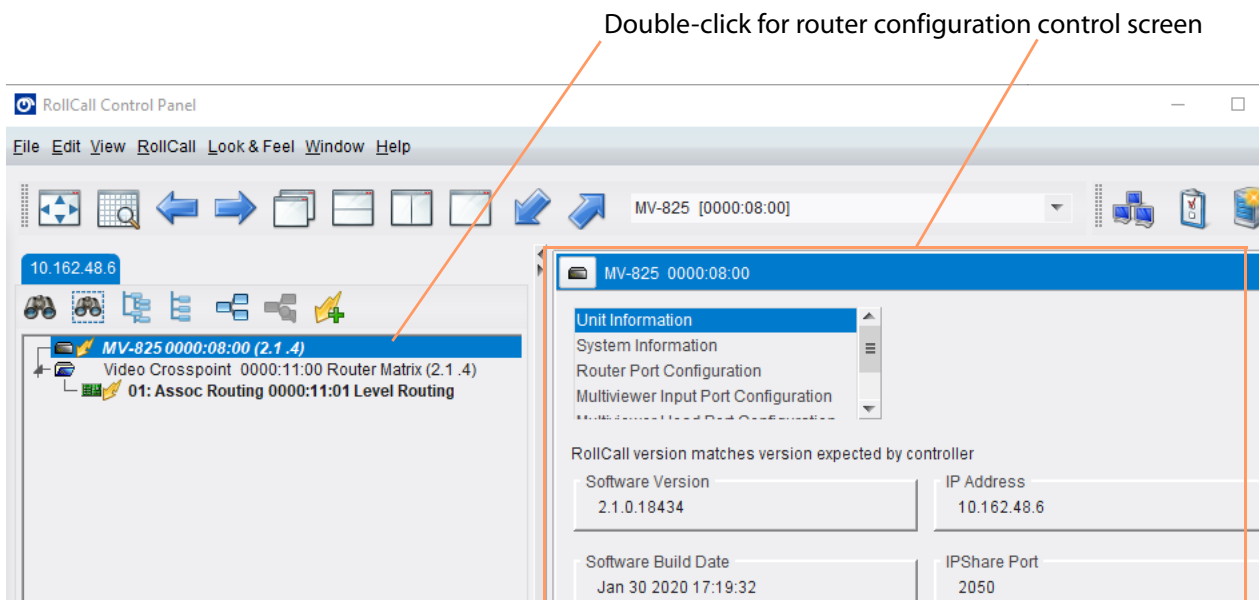

Fig. 5-3: MV-825-RTR Router Configuration Control Screen
The MV-825-RTR is shown in the network view and has the RollCall views shown in Figure 5-3.
- 3 Double-click on the first item. See Figure 5-3.
Control screens are downloaded from the device and shown. See Figure 5-3